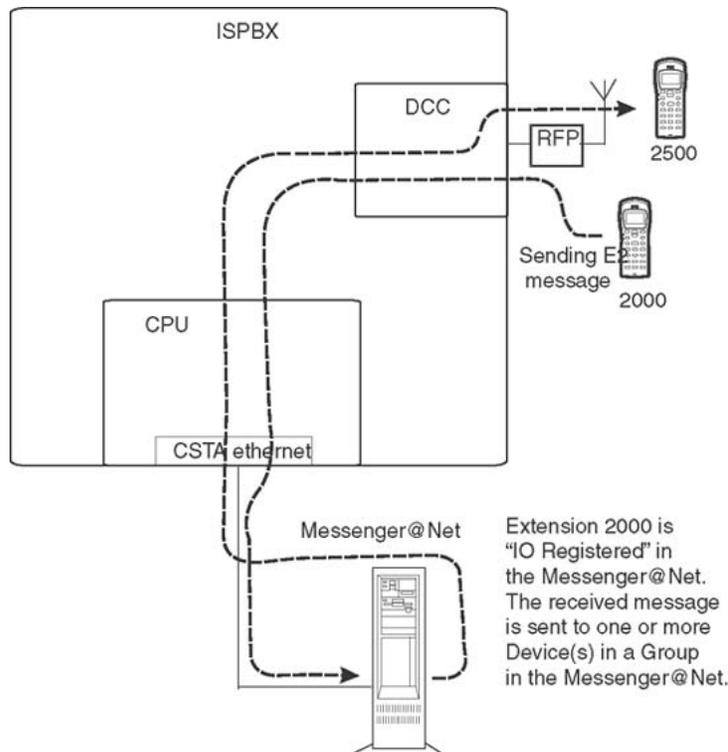

Figure 22: Incoming alarm (IA) in eDMSAPI
Figure 22: Incoming alarm \(IA\) in eDMSAPI on page 97 illustrates the handling of an incoming message (IA) in the eDMSAPI module, as follows: